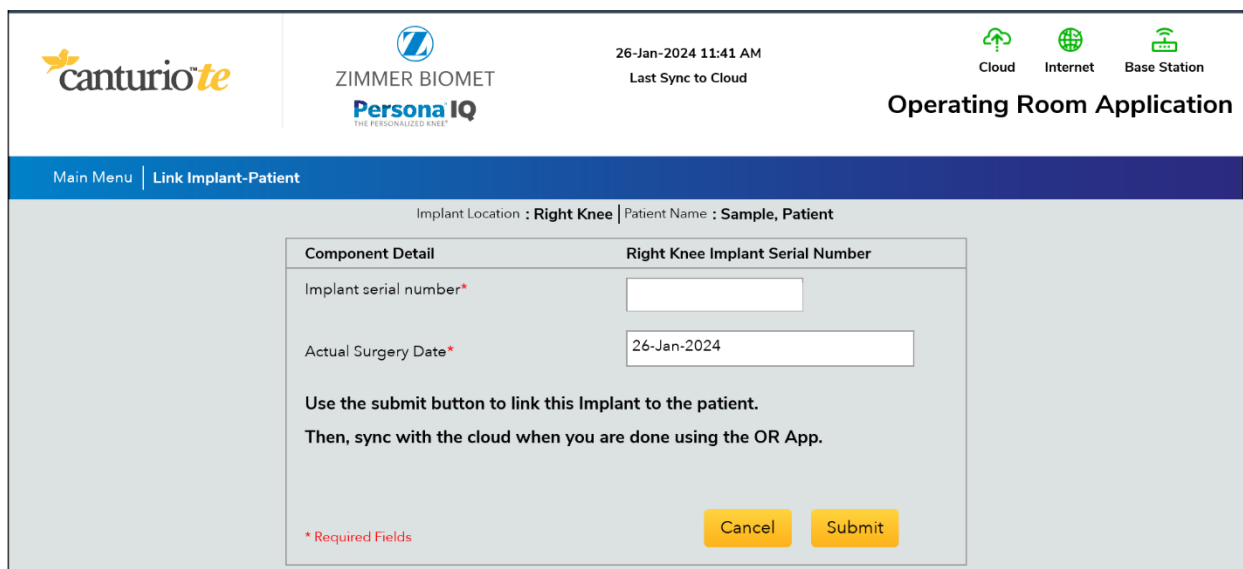

Figure 41: Add Component Information
10. Click in the “Implant Serial Number” field to enter or scan the implant serial number and update the “Actual Surgery Date” field to reflect the date of surgery (it will default to the current date). When finished, click “Submit” to save the information to the patient’s account (**Figure 41**).